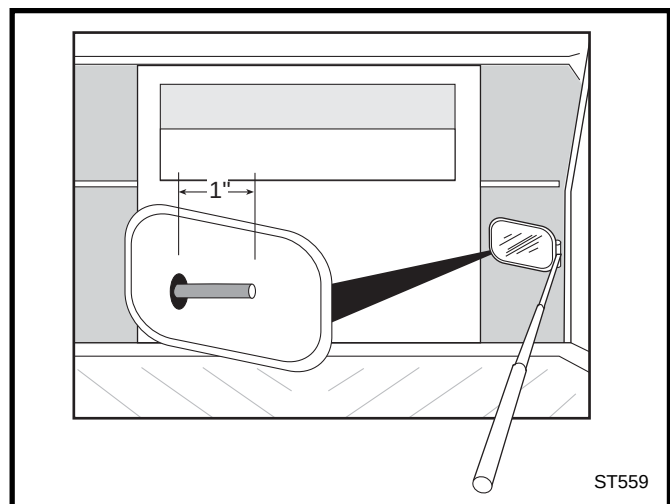

Fig. 40 Use an inspection mirror to check the reflected view of the secondary probe.
5. Inspect the element for damage or degradation. Although small hairline cracks will not affect performance, the element should be essentially intact. If the element is broken in pieces or has sections missing, it should be replaced. Call your local Vermont CastingsMajestic Products Company Authorized Dealer for a replacement element. While the catalytic element is removed, check the condition of the secondary air probe. Use an inspection mirror to locate the probe within the combustion chamber. (Fig. 40) The probe should extend 1" to 1½" into the chamber and show no signs of excessive deterioration, such as warping, corrosion, or short length. A damaged secondary air probe can affect catalytic performance. If the probe needs replacement, contact your local dealer.